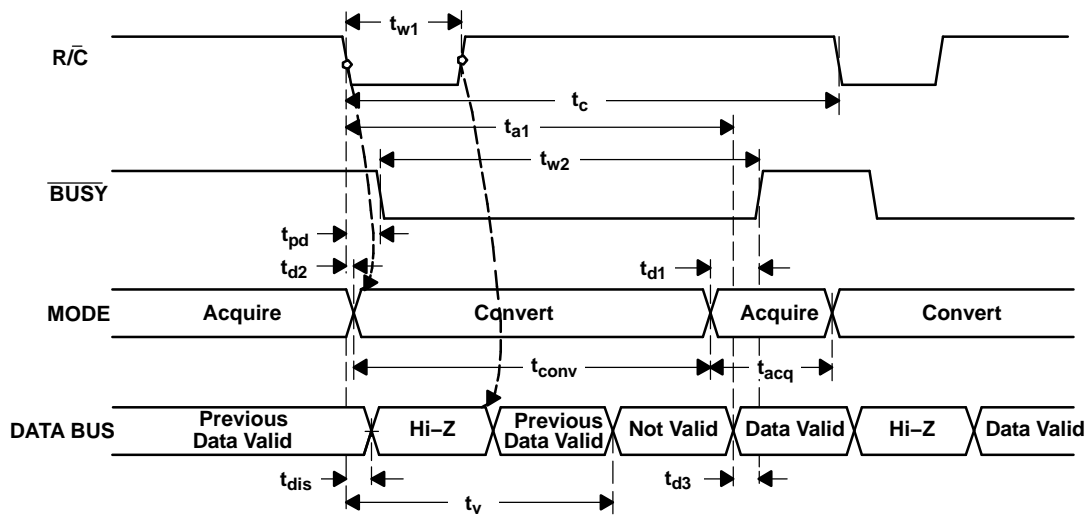
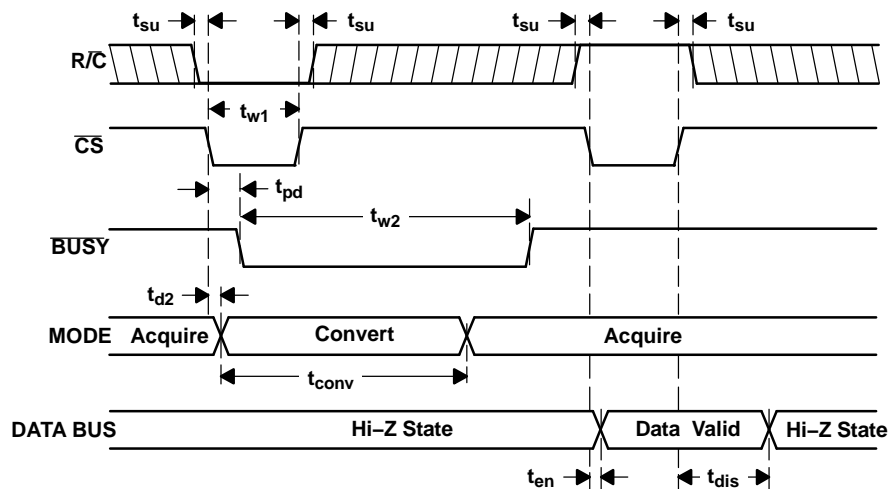
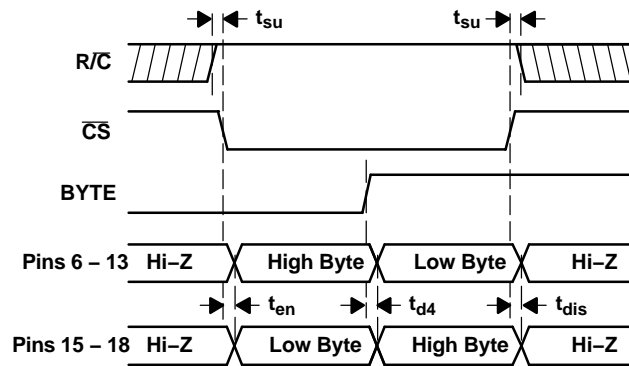

Figure 19. Conversion Timing with Outputs Enabled after Conversion ( $\overline{CS}$  Tied Low)
Figure 20. Using  $\overline{CS}$  to Control Conversion and Read Timing
Figure 21. Using  $\overline{CS}$  and BYTE to Control Data Bus
The ADS8504 begins tracking the input signal at the end of the conversion. Allowing 4  $\mu$ s between convert commands assures accurate acquisition of a new signal. Refer to Table 1 for a summary of  $\overline{CS}$ ,  $\overline{R/\overline{C}}$ , and  $\overline{BUSY}$  states and Figure 19, Figure 20, and Figure 21 for the timing diagrams.
(1) See Figure 19 and Figure 20 for constraints on data valid from conversion  $n-1$ .
After conversion  $n$  is completed and the output registers have been updated,  $\overline{\text{BUSY}}$  (pin 26) goes high. Valid data from conversion  $n$  is available on D11-D0 (pins 6-13 and 15-18).  $\overline{\text{BUSY}}$  going high can be used to latch the data. Refer to Table 3 and Figure 19, Figure 20, and Figure 21 for timing specifications.
After conversion  $n$  has been initiated, valid data from conversion  $n-1$  can be read and is valid up to  $t_2$  (2.2  $\mu\text{s}$  typ) after the start of conversion  $n$ . Do not attempt to read data from  $t_2$  (2.2  $\mu\text{s}$  typ) after the start of conversion  $n$  until  $\overline{\text{BUSY}}$  (pin 26) goes high; this may result in reading invalid data. Refer to Table 3 and Figure 19, Figure 20, and Figure 21 for timing specifications.
The number of control lines can be reduced by tying  $\overline{\text{CS}}$  low while using the falling edge of  $\text{R}/\overline{\text{C}}$  to initiate conversions and the rising edge of  $\text{R}/\overline{\text{C}}$  to activate the output mode of the converter. See Figure 19.